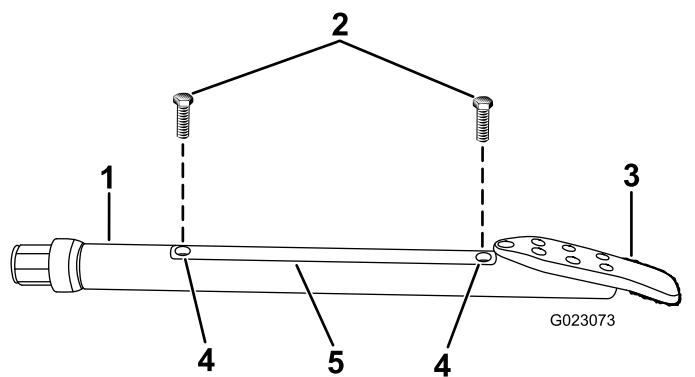

Figure 58
2. Loosen the screws securing the housing cover to the housing and remove the cover (Figure 58).
4. Install the housing cover and secure it with the screws (Figure 58).